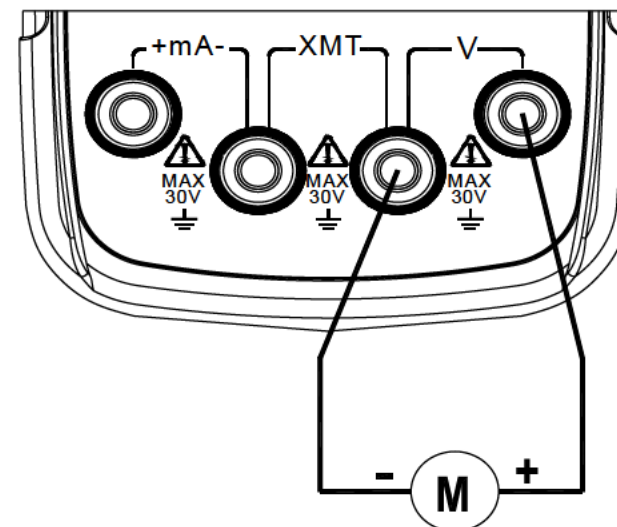

Figure 5-1
1. Insert the testing probe into the V jack of the meter's output terminal (OUTPUT), and connect the other end with input terminal of the Users' meter, see Figure 5-1: